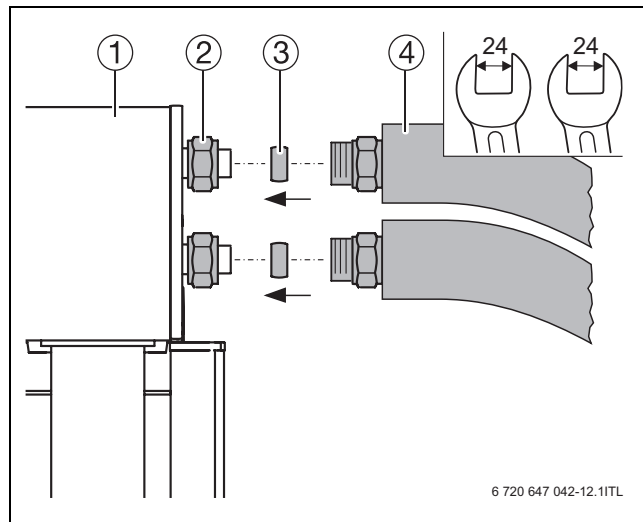

Fig. 37 Fitting connecting pipes to collectors
- ▶ Hold connection pipe (→ Fig. 37, [4]) using a SW24 spanner.